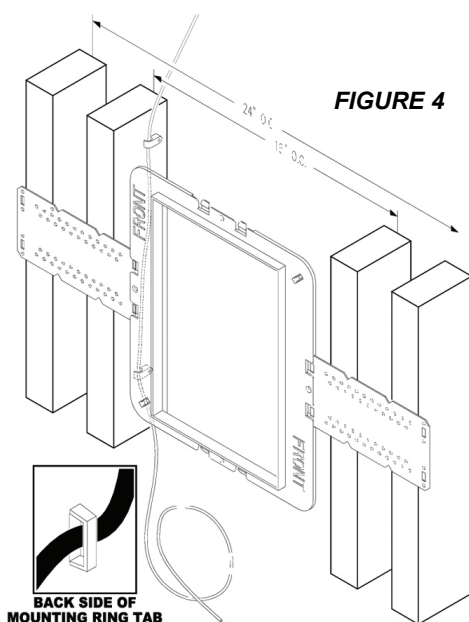

FIGURE 4
**Step 3.** After you have determined the speaker locations using the guidelines above, secure a 16 gauge 2 conductor cable to the mounting ring tabs (see figure 4), such as the M&S Systems MS16X, for attachment to the speakers after the dry wall has been installed. Leave at least 18 inches additional cable for the connection during final speaker installation. Run the other end of the speaker cable to the audio source.